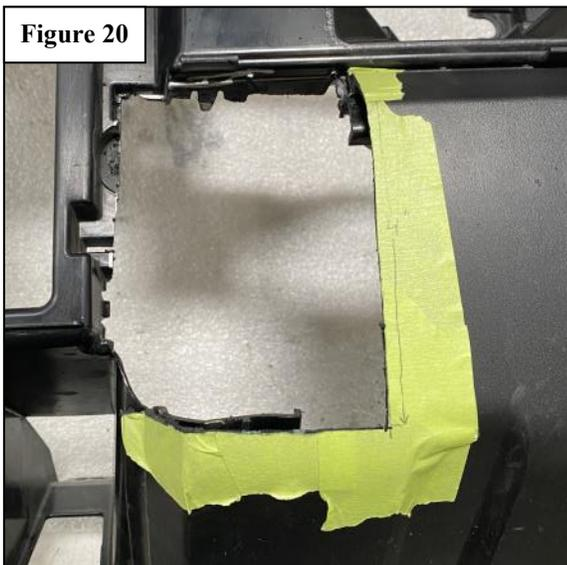

Figure 20
20. The finished product should look something similar to **Figures 20 & 21** for reference.